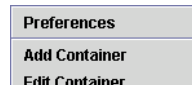

Figure 7. Edit > Add Container
1. Click *Edit > Add Container* (see figure 7).